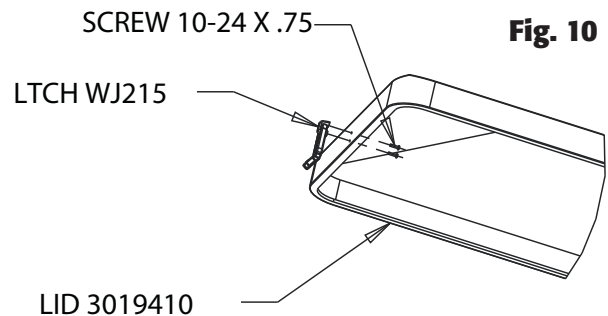

Fig. 10
10. Attach bracket and handle of draw latch to lid #3019410 using 2 10-24 screws as shown in Fig.10. Attach draw latch catcher to the hopper as shown in Fig.11.